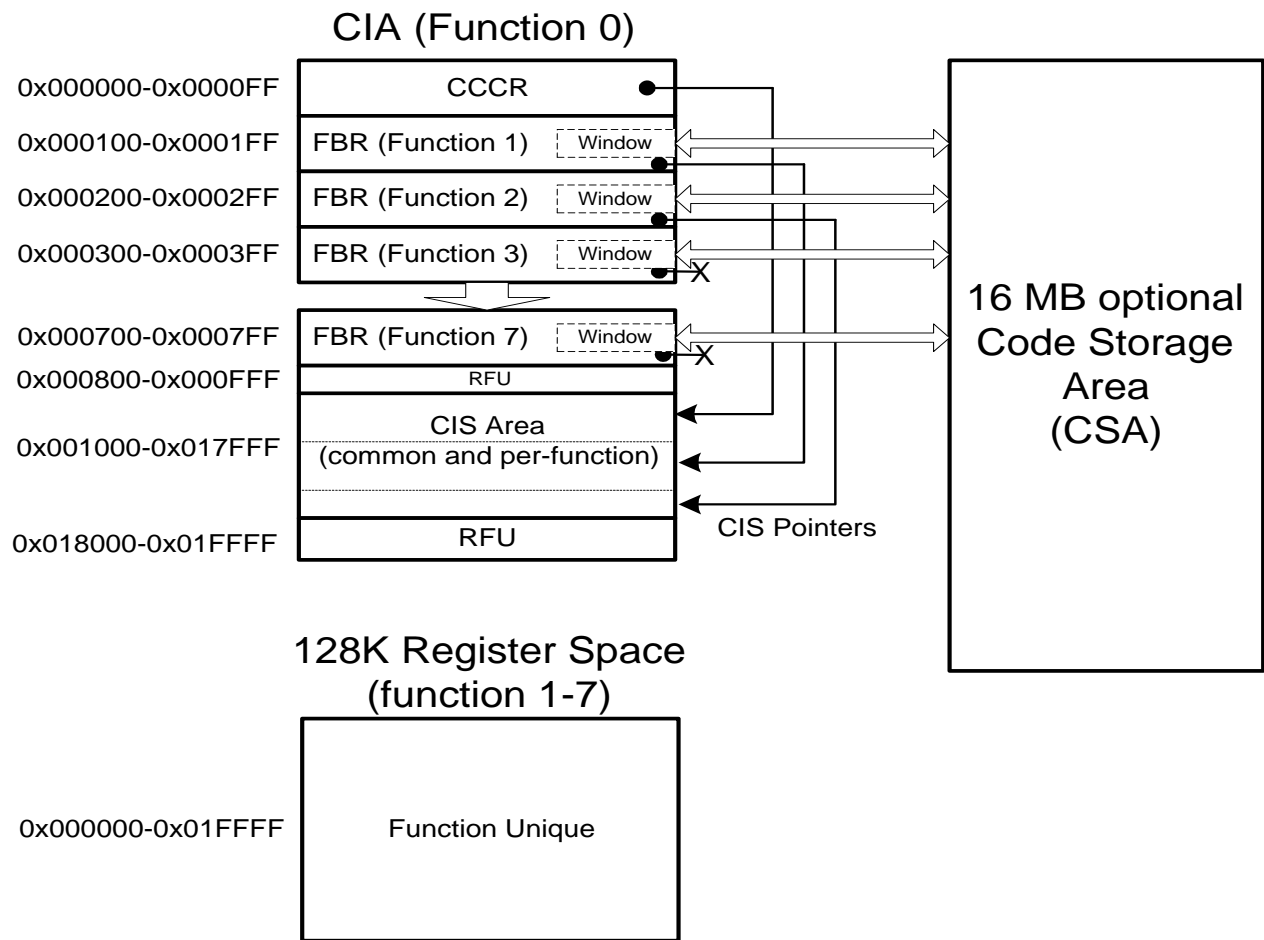

Figure 6-1 : SDIO Internal Map
Each SDIO card may have from 1 to 7 functions plus one memory function. A function is a self contained I/O device. I/O functions may be identical or completely different from each other. All I/O functions are organized as a collection of registers. There is a maximum of 131,072 ( $2^{17}$ ) registers possible for each I/O function. These registers and their individual bits may be Read Only (RO), Write Only (WO) or Read/Write (R/W). These registers can be 8, 16 or 32 bits wide within the card. All addressing is based on byte access. These registers can be written and/or read one at a time, multiply to the same address or multiply to an incrementing address. The single R/W access is often used to initialize the I/O function or to read a single status or data value. The multiple reads to a fixed address are used to read or write data from a data FIFO register in the card. The read to incrementing addresses is used to read or write a collection of data to/from a RAM area inside of the card. Figure 6-1 shows the mapping of the CIA and optional CSA space for an SDIO card.
The SDIO card has a fixed internal register space and a function unique area. The fixed area contains information about the card and certain mandatory and optional registers in fixed locations. The fixed locations allow any host to obtain information about the card and perform simple operations such as enable in a common manner. The function unique area is a per-function area, which is defined either by the Application Specifications for Standard SDIO functions or by the vendor for non-standard functions. Figure 6-1 shows the internal map of an SDIO card with multiple functions.